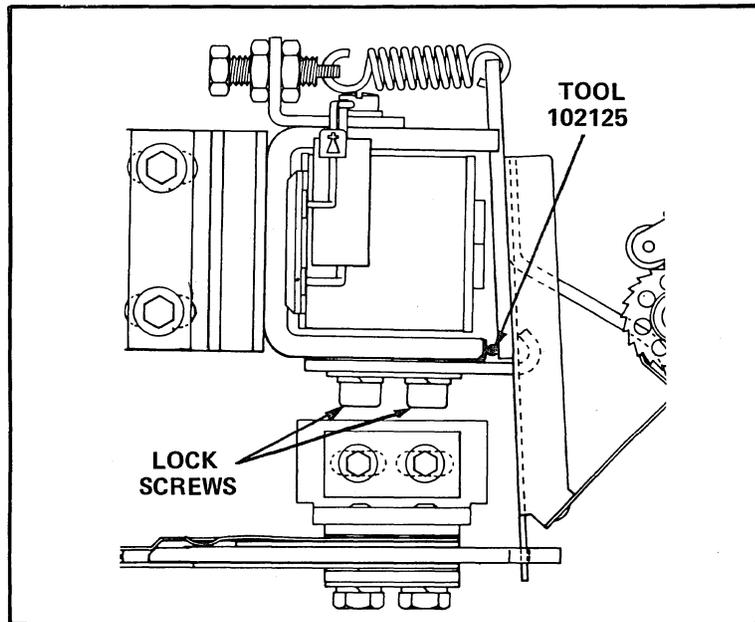

Figure 6-5 Armature Travel Adjustment
- (2) In order to have sufficient travel to pick the ratchet tooth and operate the interrupter switch with the required safety factor, the clearance between the armature and residual shim is set at 0.062". This is measured with 0.062" round gauge (see Table 7-1). See Figure 6-5.